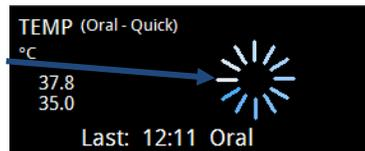

Figure 67: Temp Measurement in-Progress indicator
- 5) The thermometer turns on automatically (refer to Figure 67). This will be indicated by a Temp Measurement in-progress wheel indicator and an audio tone.
- 5) The thermometer turns on automatically. This will be indicated by the Temp Measurement in-process indicator and an audio tone (refer to Figure 67).